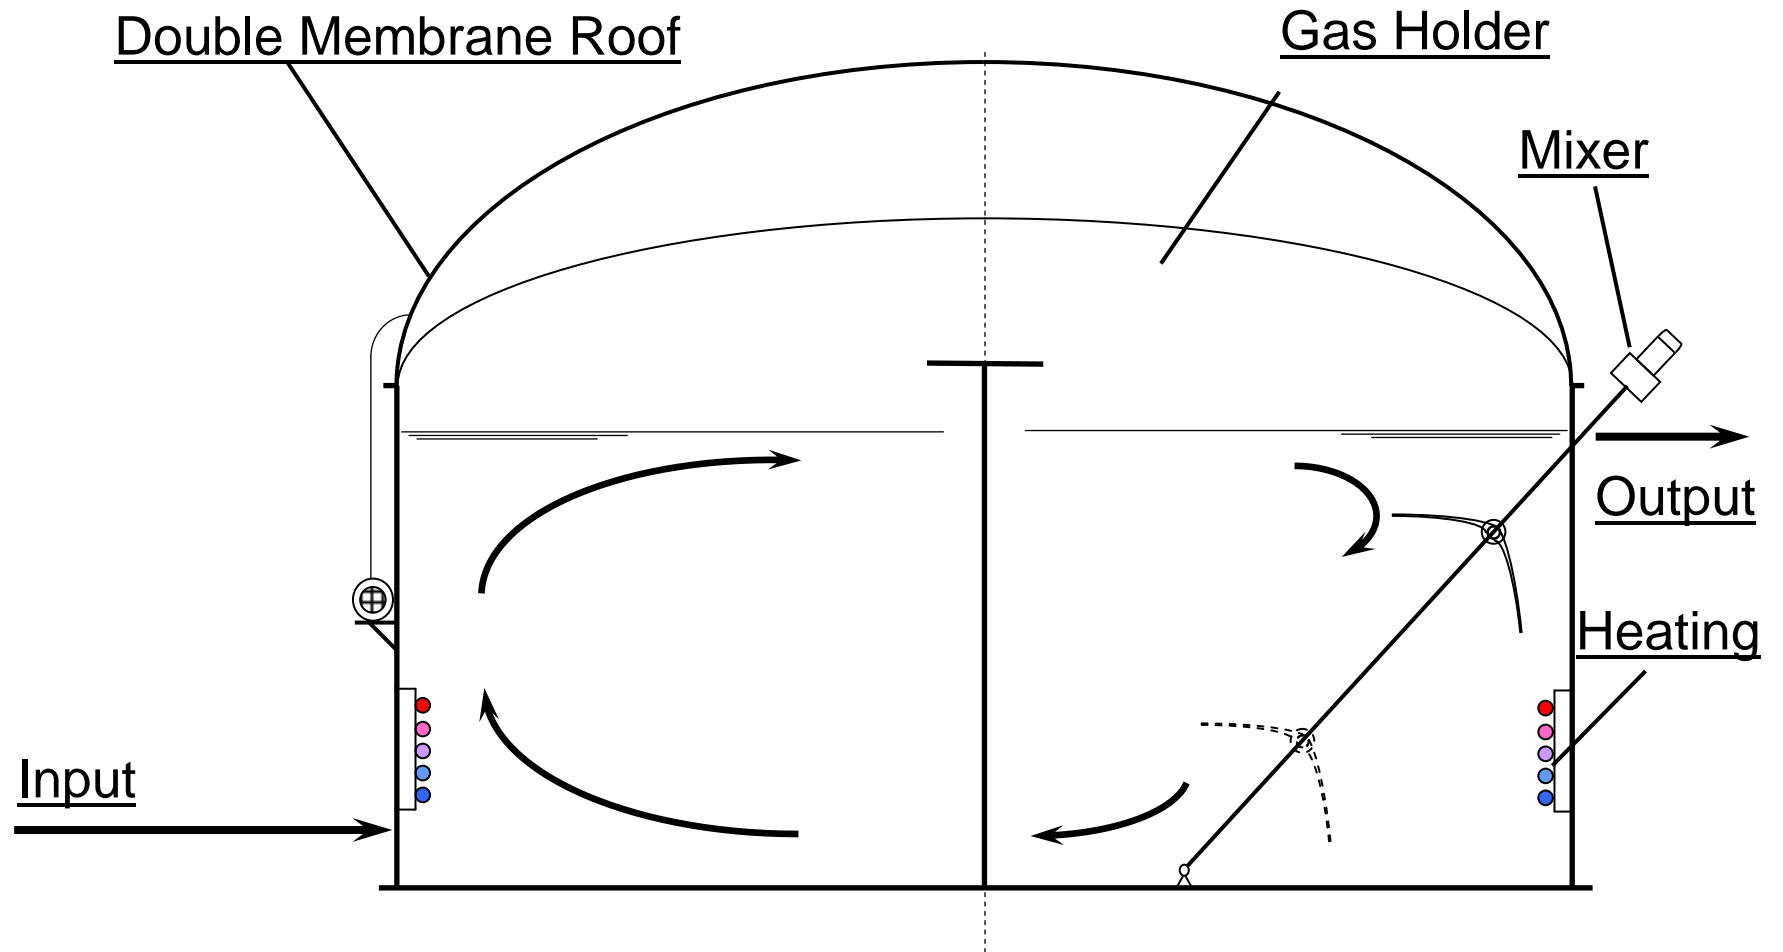

Figure 5: Standard Digester in Agriculture
- Gas holder roofs. They are installed on top of a (concrete) digester. The cheap version is just a single membrane the better version is a double membrane roof, figure 5.